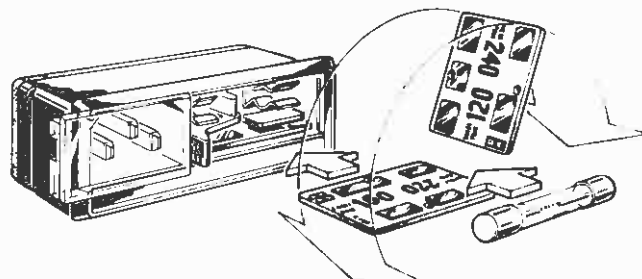

Figure 2-1. Fuse Holder on Rear of Instrument
1. Disconnect the power cord at the instrument, open fuse holder cover door and rotate FUSE PULL to left to remove the fuse (figure 2-1).